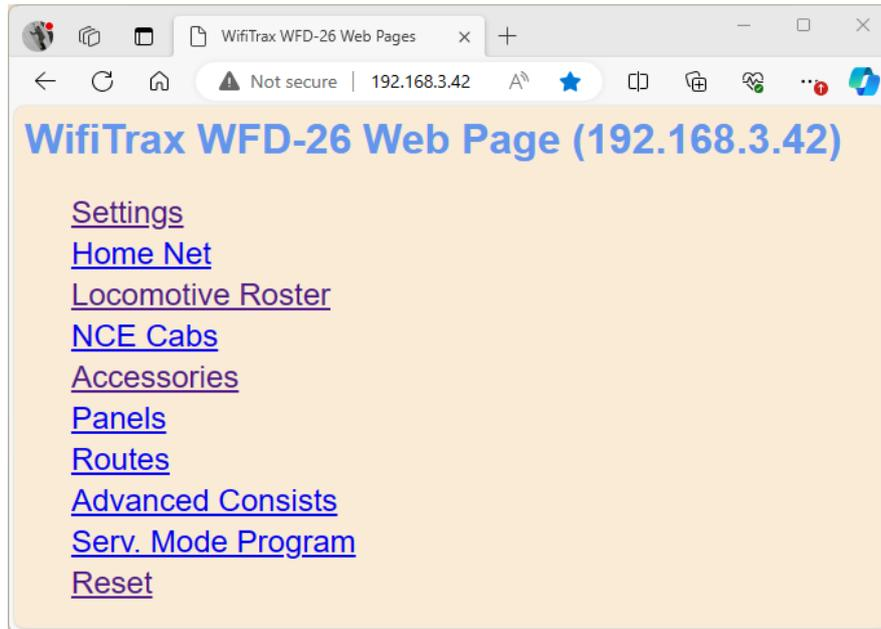

Figure 30 The WFD-2X Web Master Menu, Note: only the WFD-26 has the NCE Cabs Option.
- (1) Connect to the Wi-Fi Access Point that your WFD-2X is using.
- (2) Run Engine Driver and on the Connect to Server page select the SNXXXXXXX entry in the Discovered Servers list. If you have changed the module name, your new module name will appear in this list instead.
- (3) Tap the “three dots” icon at the top right of the screen and select Web in the menu. You should now see the WFD-2X Main Menu as in Figure 30. You can click or tap on any of the headings in the menu to access that feature. The following sections provide information about all of the menu options.
- (2) Run WiThrottle and the Connect to Server will display. Select the SNXXXXXXX entry in the Available WiThrottle Servers list. If you have changed the module name, your new module name will appear in this list instead.
- (3) You now should see the WiThrottle Address page. At the bottom there should be four tabs Throttle, Address (highlighted in blue), WebServer and Settings. Tap on the WebServer tab and you should now see the Web Setup Main Menu as in Figure 30. You can click or tap on any of the headings in the menu to access that feature.
- (4) The WFD-2X Main Menu appears as Figure 30. You can click or tap on any of the headings in the menu to access the setup for that feature, described in the following sections. The NCE Cabs option is only present on the WFD-26, since it is the only one of the three to support an NCE Cab Bus as master.
To modify General Settings, tap the Settings heading in Figure 30.